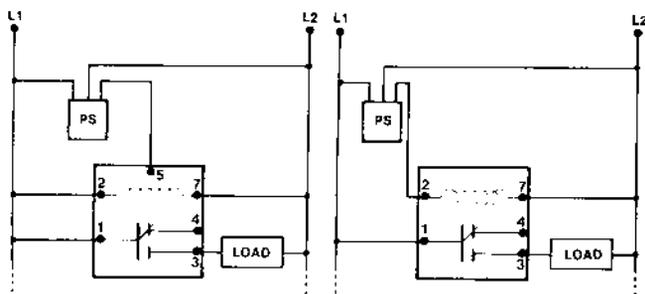

Figure 1A
**Plug-in Timers:** The three-wire PS will operate with all plug-in timers as shown in Figures 1A and 1B.